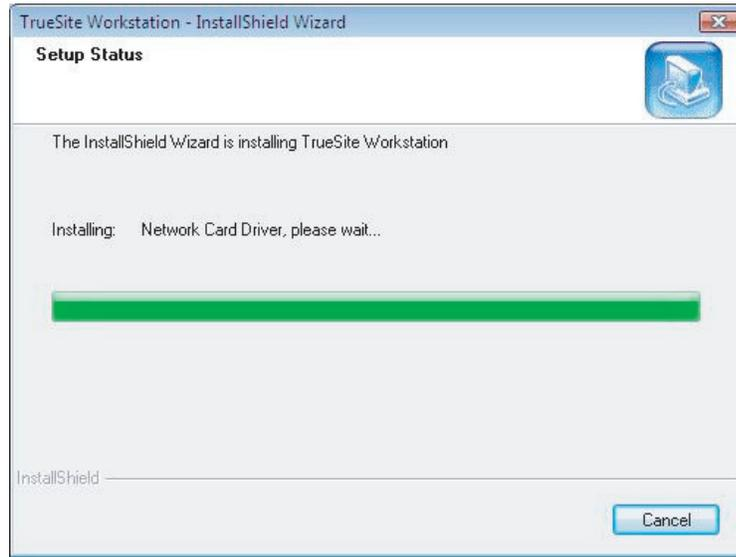

Figure 3-17 Network Card Driver Installation
- i. While the TSW applications and the necessary device drivers (e.g. PortTalk.sys for sound) are being installed, a **Setup Status** dialog box displays the progress. The network card drivers are installed at the end of the installation process (Figure 3-17).